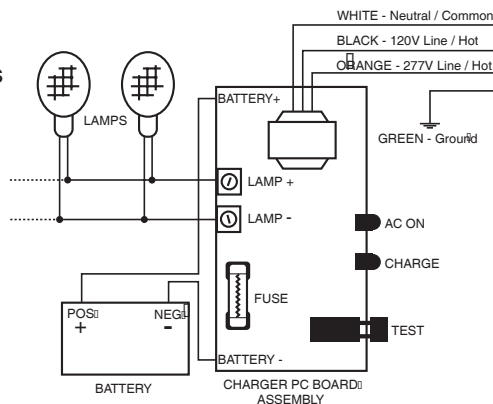

Figure 3
6. Make proper wiring connections between the AC supply and the unit's transformer: ORANGE - Line 277 Volts; BLACK - Line 120 Volts; WHITE - Neutral. BROWN is provided in place of ORANGE for special voltages (Figure 3). **Insulate unused wire!** Connect ground to supplied green ground wire in accordance with local codes. Reassemble all wire connections and connectors. **CAUTION! - Failure to insulate unused wire may result in a shock hazard or unsafe condition as well as equipment failure.**